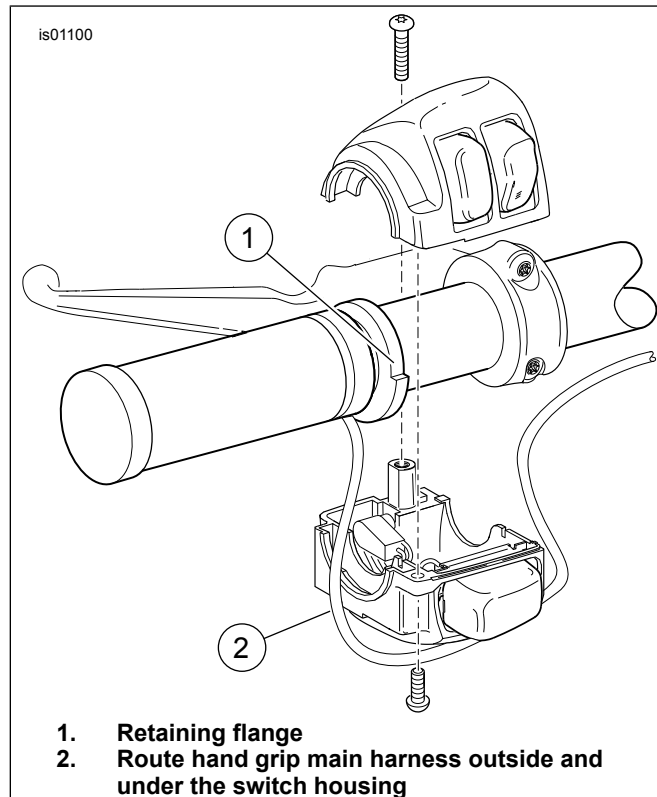

Figure 1. Heated Hand Grip (Left Side)
- See Figure 1. Position the left side grip on the handlebar so the retaining flange (1) can be securely installed into the lower switch housing (2).